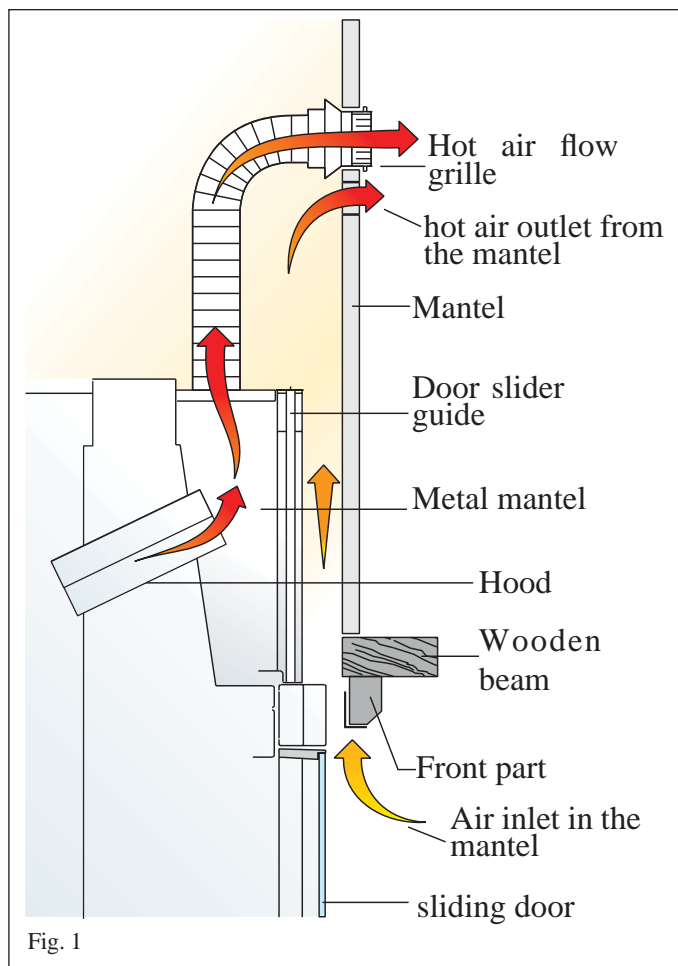

Fig. 1
Coating, mantel and aeration (fig. 1)
- **“lighting”/max heating capacity position (Fig. 1):**